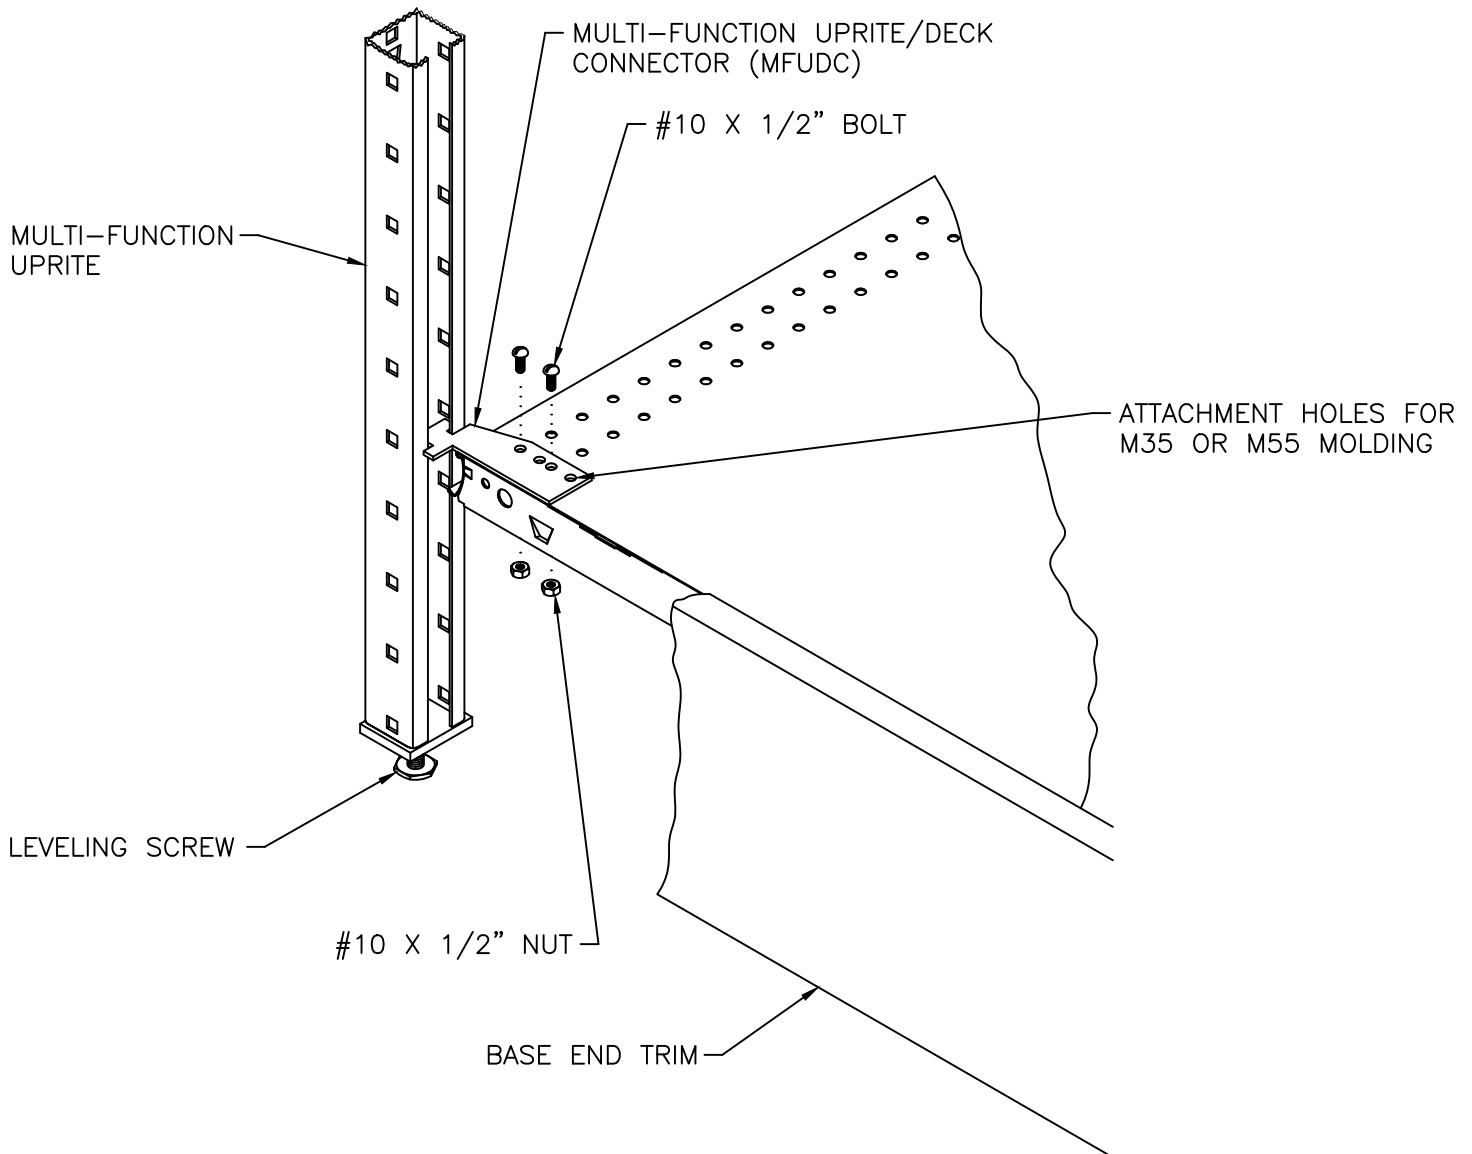

FIGURE 3
- Attach the Deck Connector using the holes required to provide desired clearance at front of deck. Using two #10 x 1/2" bolts and nuts, fasten to the outward pair of holes in the SD Deck (SEE FIGURE 3).